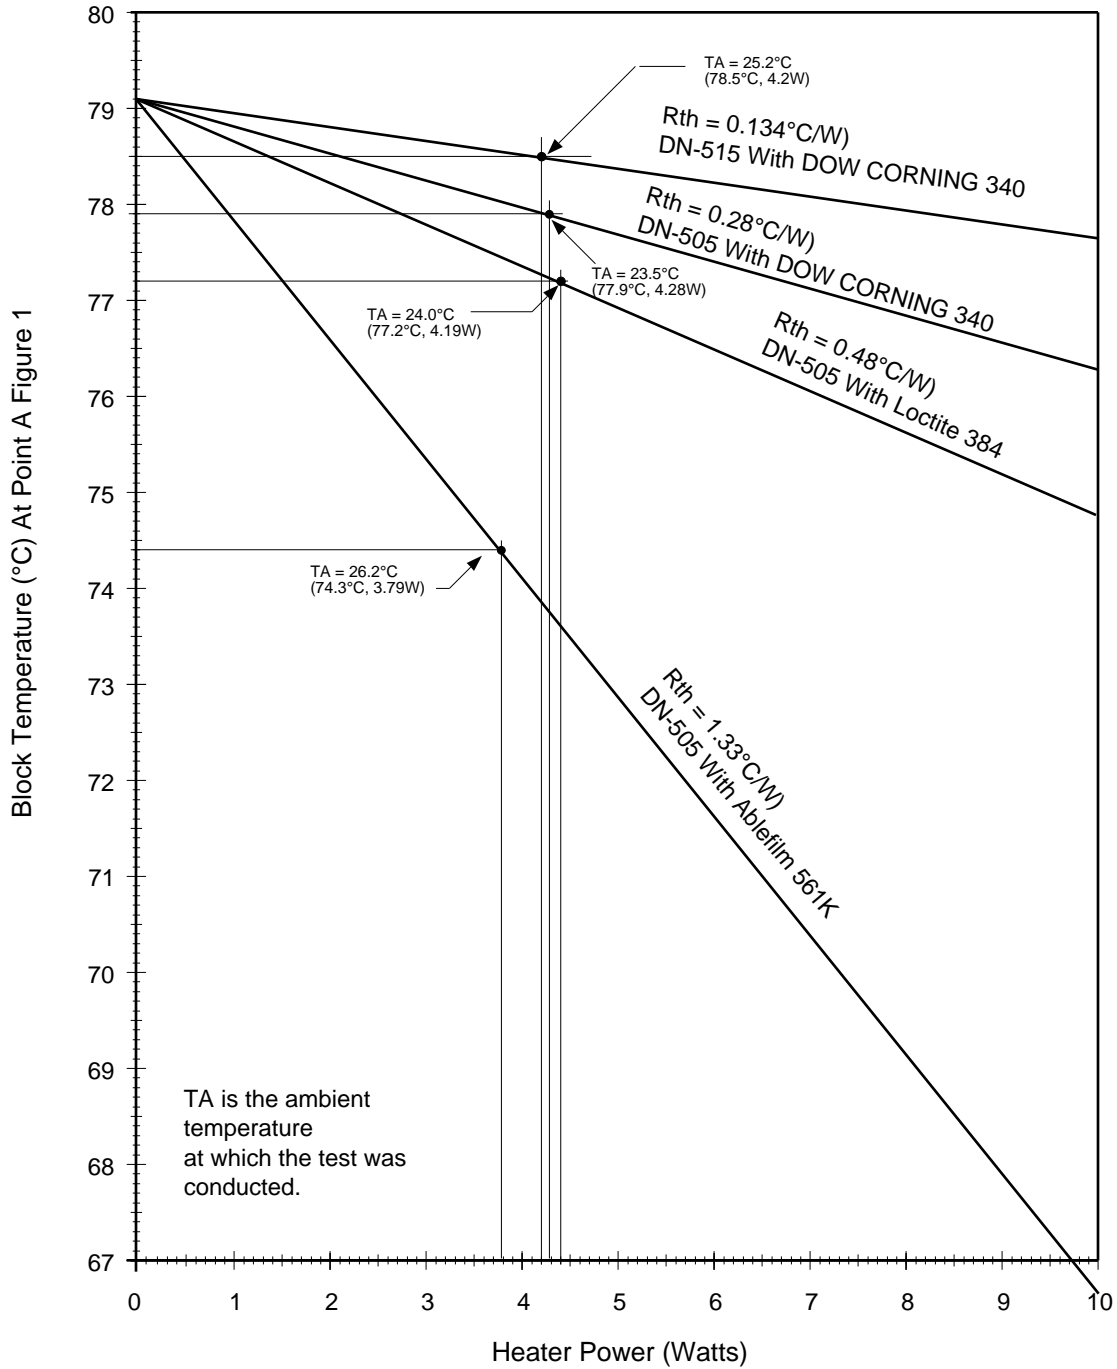

Figure 2
A DN505 heater was mounted to an aluminum block as shown in Figure 1c and Figure 1d. The temperature of this heater was set to 80°C with a 7.15K temperature set resistor. The temperature of the block and the electrical power required to heat the block were measured at ambient temperature (TA). Next, the heater and aluminum block assembly was placed in an oven. The temperature of the oven was increased to a temperature slightly below the heater set temperature so that heater draws only several milli amperes of current. The temperature that was measured was 79.1°C. The graph shown in Figure 2 illustrates how the temperature of the block varies as a function of power required to heat the block. The graph was created by drawing a straight line between 79.1°C on the "Y" axis (zero heater power) and the point on the graph representing the measured block temperature and heater power when the measurements were made at ambient temperature.
As it can be seen from Figure 2, The Dow Corning 340 thermal interface compound gave the best results. Thermal resistance of 0.28°C/Watt was achieved with the DN505 and 0.134°C/Watt for the DN515. The results using the DN515 was better because the heater surface area is 2.8 times greater than the heater surface of the DN505. The only problem with the Dow Corning 340 is that the heater and the object being heated must be mechanically clamped. The Loctite 384 yielded a thermal resistance of 0.48°C/Watt. This means that if temperature drop across the thermal interface would be 4.28°C if the heater was operating at full heating capacity of 10 Watts. The Ablefilm produced the poorest results with a thermal resistance of 1.33°C/Watt. This is because the glass supporting film is 0.005" thick. This is quite thick compared to a thickness of one to two thousandths of an inch for the Dow Corning 340 and Loctite 384 which causes higher thermal resistance.